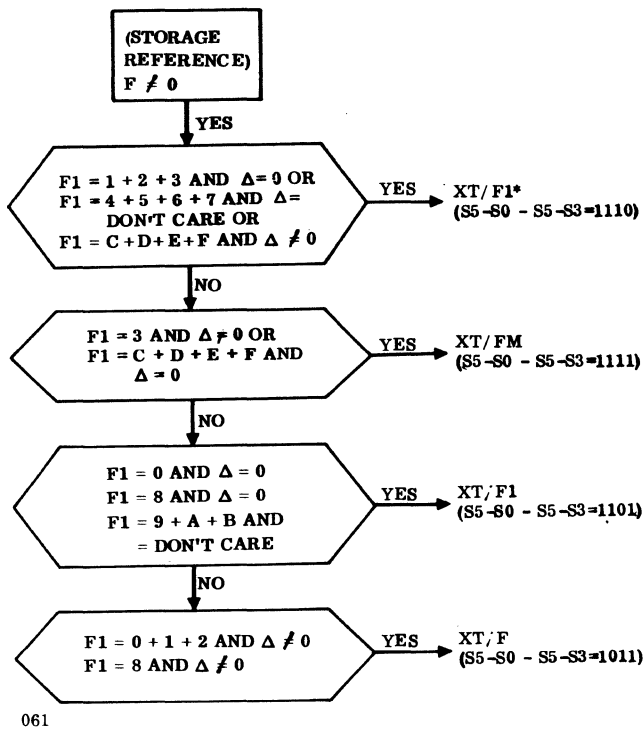
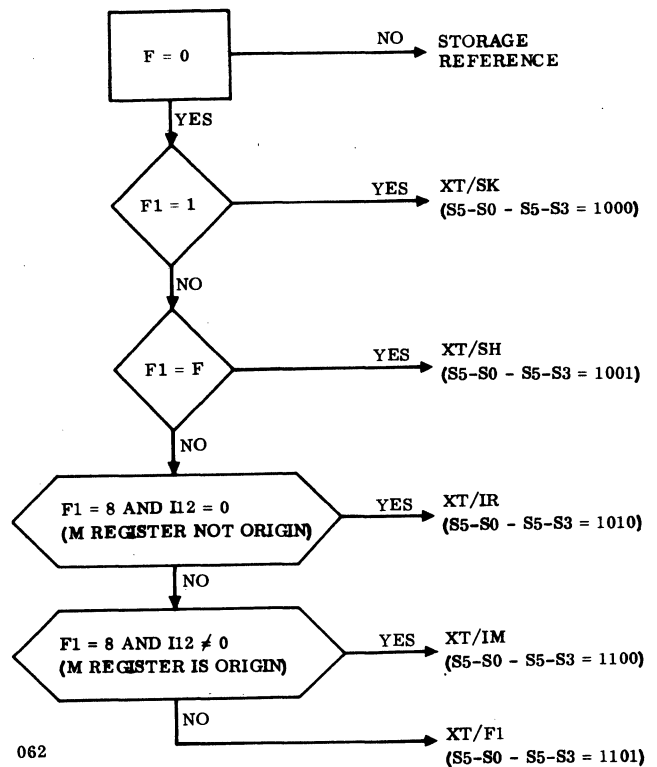

Figure 5-2. MA Transform Selection for 1700 Storage Reference Instructions
Figure 5-3. MA Transform Selection for 1700 Register Reference and Inter-Register Reference Instructions
2. The output of the IXT register is decoded into j value select signals to select the MA transform. Refer to figure 5-2 for MA transform selection. For the macro instruction used in this example, the XT/F MA transform is selected since j value equals B16. The output of the MA transform becomes:
During TMA/j, TMAK/j, and GETMAK/j transform operations, select signals S5-S0 through S5-S3 directly correspond to MIR28 through MIR31 that are derived from the micro memory bits (MM28 through MM31). During the GETMAK/XT transform operations, select signals S5-S0 through S5-S3 are generated based on the macro instruction being emulated. Multiplexer K12 selects one of the above cases depending upon the high or low state of the GETMAK/XT signal applied to K12-1. During GETMAK/XT operations, the output of the IXT register is first coded to select the MA transforms for storage reference instructions (figure 5-2) when  $F \neq 0$  and then for register and inter-register reference instructions (figure 5-3, table 4-5) when  $F = 0$ . The  $F = 0$  signal applied to pin 1 of multiplexer D10 selects the MA transforms as follows:
The MA transform selection shown in figure 5-3 is performed simultaneously by the combination circuit. These flow charts indicate the selection conditions rather than the sequential steps in selecting the MA transforms.